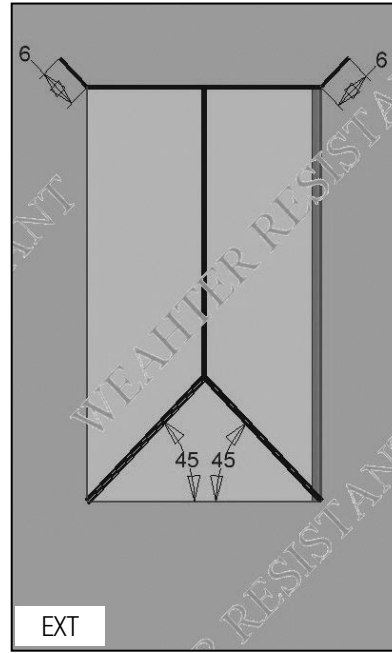

FIG. 3
- G) Cut the weather-resistant barrier (WRB) in a “Modified I” pattern shown below. (Fig. 3)